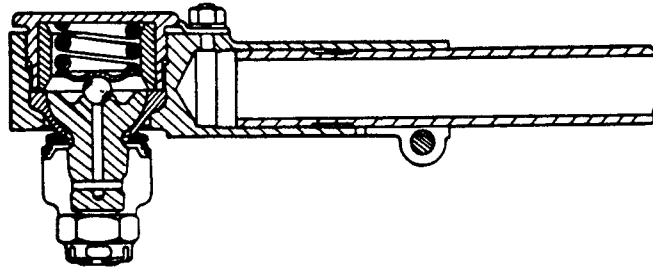

Fig. 1. Section through ball joint at front end of side steering tube.
- (v ) Remove the cap nut of the joint (see Fig.1) and completely pack the joint with grease.
- (vi) Before refitting the ball joint (ball pin) to the lever, clean the tapered shank of the pin and corresponding hole. With the sealing disc and pressure spring in position on the pin and the correct way round (See Fig. 1), refit the ball pin to the lever, fully tighten up the nut and secure with a new split pin of the correct size.